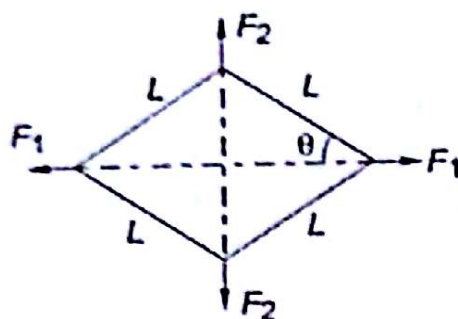

Fig. 9.30
- 9.9 Four bars of equal length L each are joined together at their ends in the form of a rhombus as shown in Fig. 9.30. Using the principle of virtual work, find the